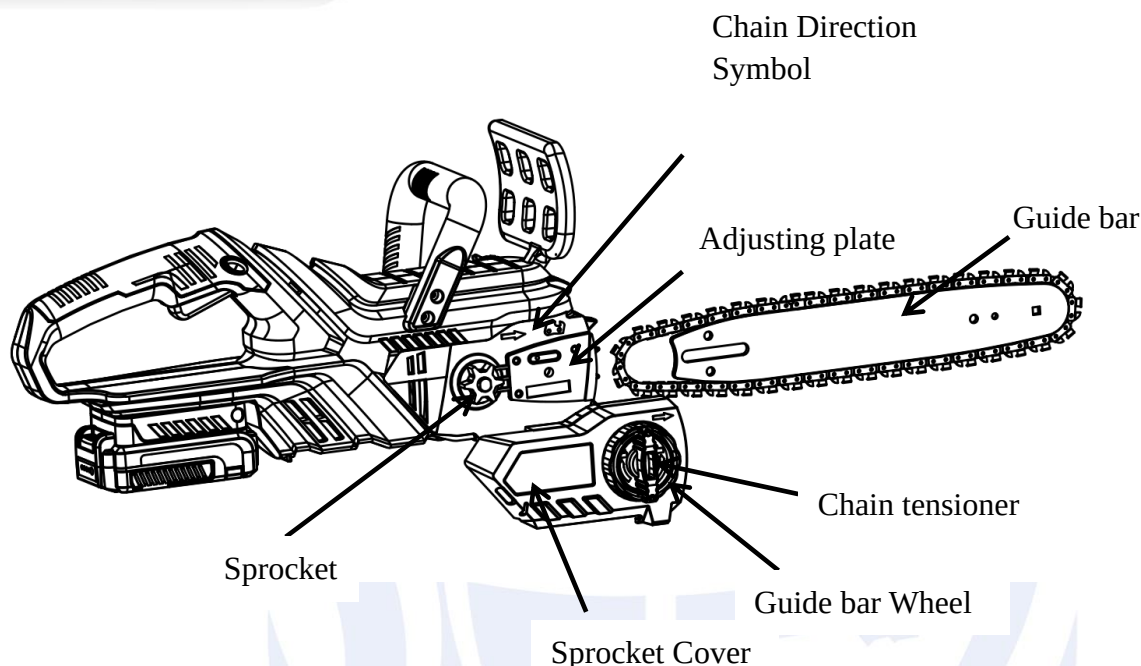

Figure 1
2. Turn chain tensioner counterclockwise (see **Figure 1**) ,and take off the sprocket cover.
4. Place chain around drive sprocket, then along top groove of guide bar and around guide bar nose. Note: Make sure cutting edges of chain are facing the right direction. See Chain Direction Symbol.(see **Figure 1**).